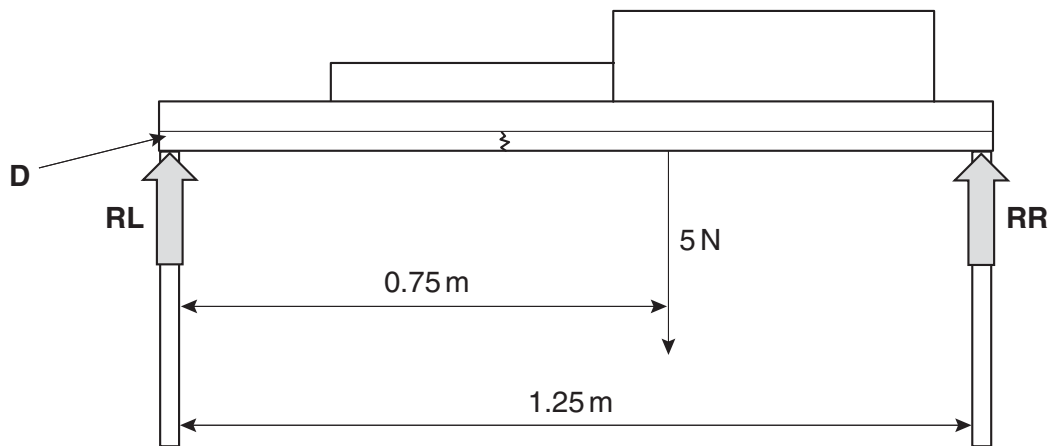

Fig. 9
- 3 (a) Fig. 9 shows a simplified diagram of the keyboard and its stand.
(iv) The stand is broken across member **D** as shown in Fig. 9. Use sketches and notes to show **one** way that could be used to repair the cross member.